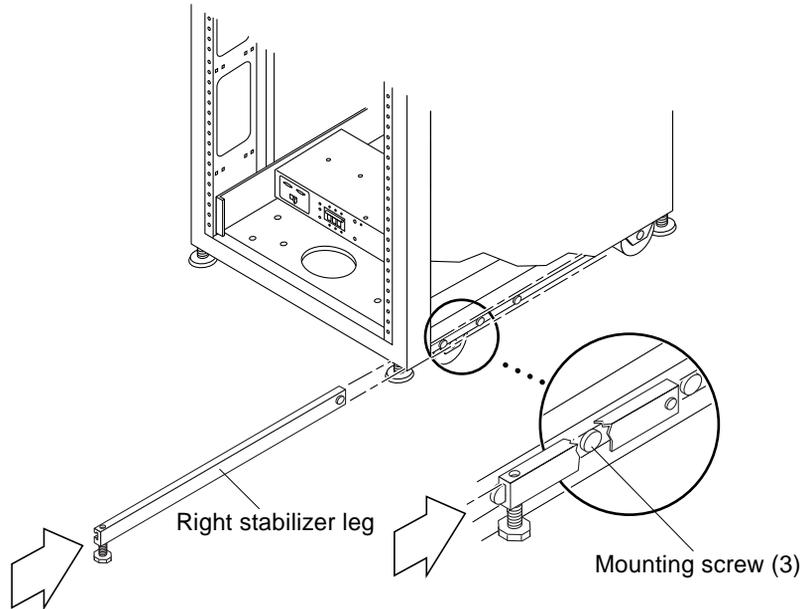

FIGURE 3-3 Installing the Right Stabilizer Leg
2. Slide the right stabilizer leg over the three mounting screws at the bottom of the rack (FIGURE 3-3).